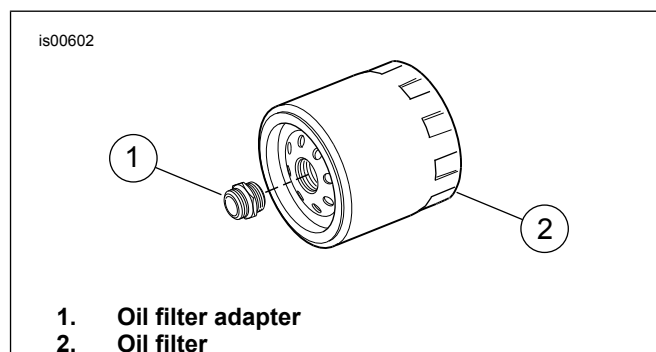

Figure 1. Oil Filter and Adapter
2. Remove electrical caddy (9) from regulator bracket of frame.
3. See Figure 1. Remove the spin-on oil filter (2) and oil adapter mounting fitting (1) from oil filter mount location.